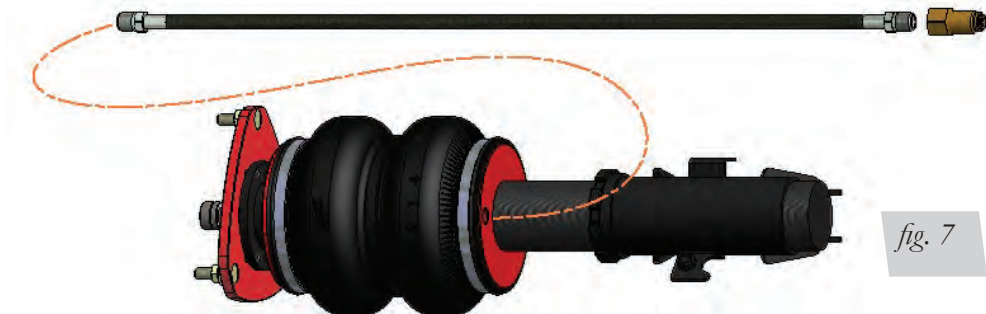

fig. 7
1. Begin by installing the leader line into the air spring (fig. 7). Wrap the threads of the leader hose with Teflon tape or thread sealant. Tighten the appropriate fitting to the airline 1 ¾ turns beyond hand tight. Tighten the leader line into the air spring 1 ¾ turns beyond hand tight.